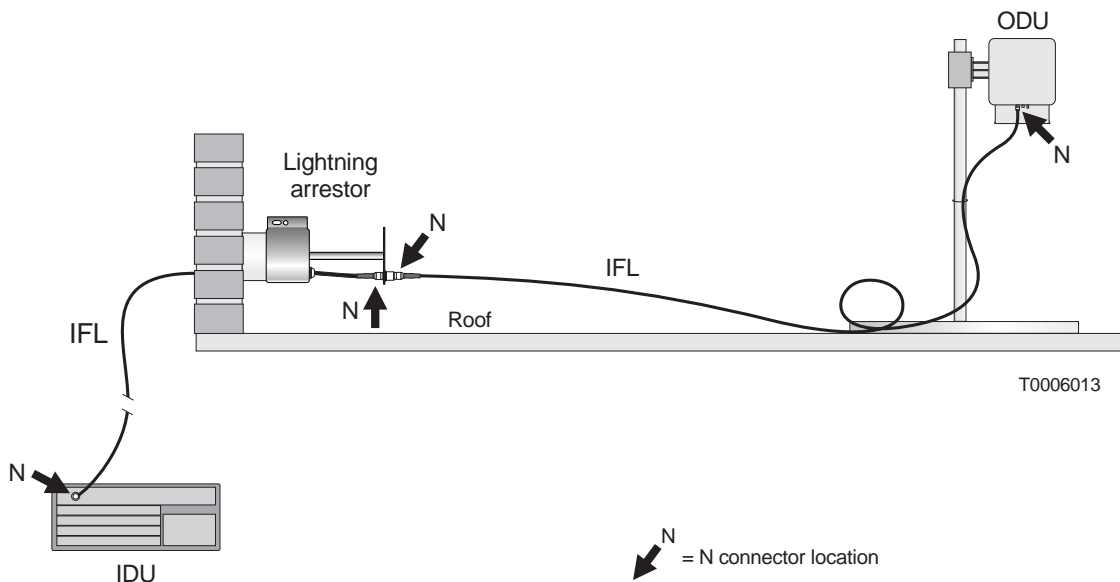

Figure 10-7 Disconnect N connectors at the four locations shown here
3. Disconnect all four IFL N connectors, as shown in figure 10-7: